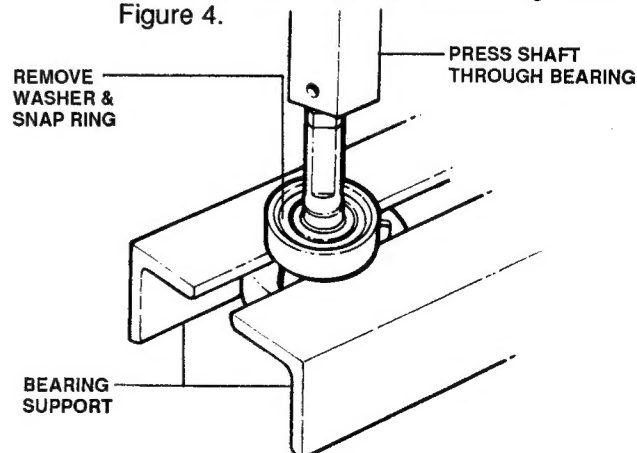

FIGURE 4
5. Using a bearing puller or by supporting the bearing between two surfaces as shown, press the shaft through the bearing. Reinstall bearing by pressing on inside of clutch drum, using the same techniques as removing the bearing. See Figure 4.